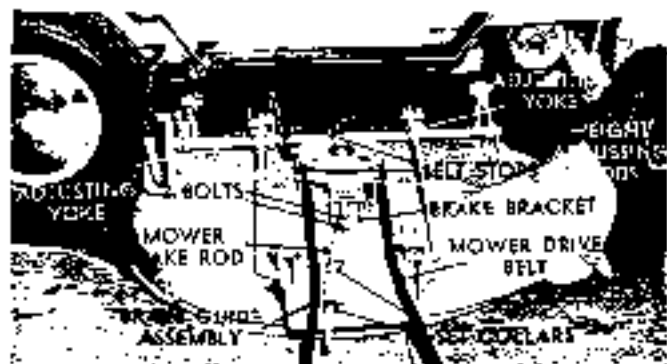
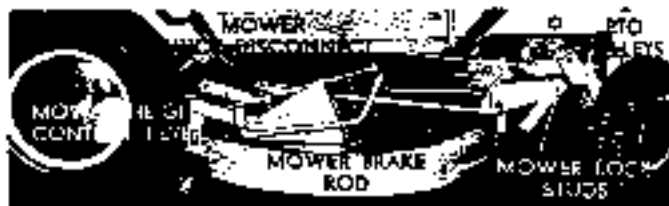

FIG. 51
FIG. 52
To attach the mower to the tractor, first park the tractor on level ground. Move the P.T.O. Lever to the "Disengaged" (rear) position. Put the mower down on the right side of the tractor so that it faces perpendicularly away from the tractor (Fig. 51). Turn the front wheels of the tractor hard to the left to give a clear access to the underneath. Push the mower straight in under the tractor to the point where it can be turned 90° to face in the same direction as the tractor (Figure 52).
Now lift the front of the mower up and back so that the lock studs on each side of the Mower Arm will drop down into the slots of the Mower Quick-Disconnect Assembly. (Fig. 52)
To raise the blade tip at the front, turn the Yokes on the Adjusting Rods clockwise (counterclockwise to lower) (Fig 51 ).
Position the brake so that the face touches both tips of pulley, then tighten the two (2) bolts holding the Brake Bracket to the Mower Housing (Fig. 51 ).